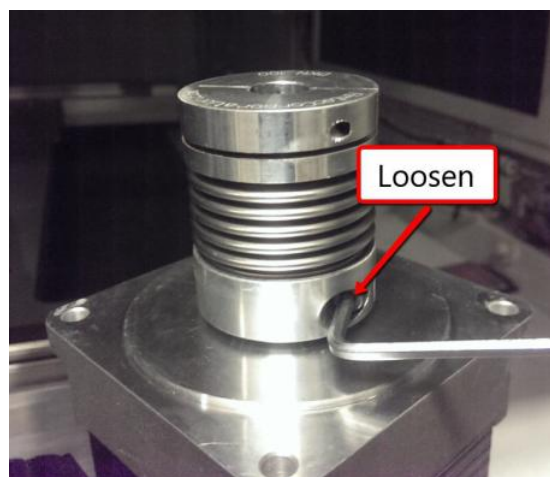

Figure 5 Coupling removal
9. Loosen 1 x screw at other end of 2660-0032(Coupling) and gently remove as below Figure 5